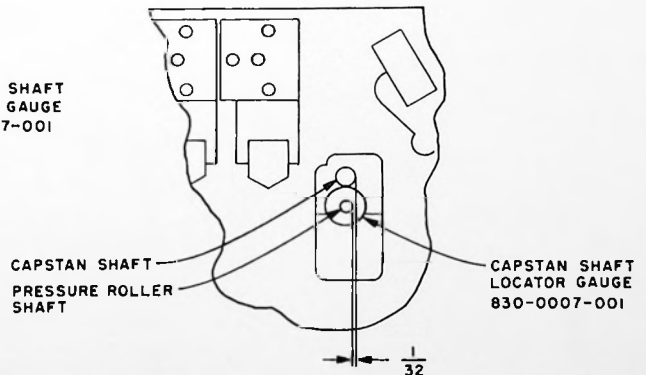

FIGURE 4-2
3. While squeezing the steel gauge and the capstan shaft together, position the capstan shaft as shown in Figure 4-2. The steel tool must lie flat against the capstan shaft to make the pressure roller shaft parallel with the capstan shaft.